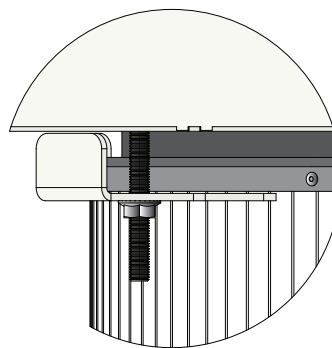

FIG. 17a
Lift the three stacked Filters (G10, G12) to mate with the outlets on the Plenum Assembly (F). Rotate the twelve Plenum Clips (G7) so the Clip is under lip of the Filter as shown in [FIG. 17a]. Tighten hardware.